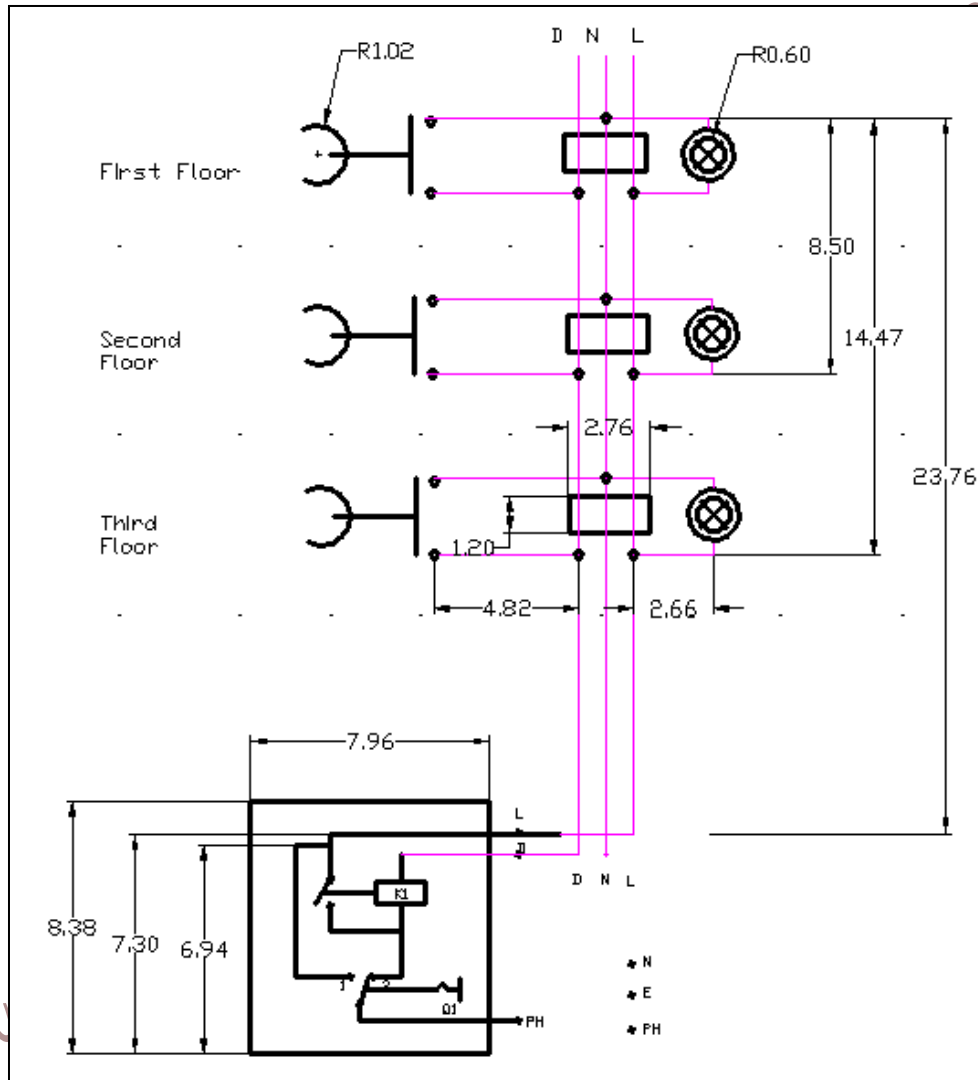

Figure 2.11: Light controlled by a timer
2. Draw the circuit of figure 2.11.